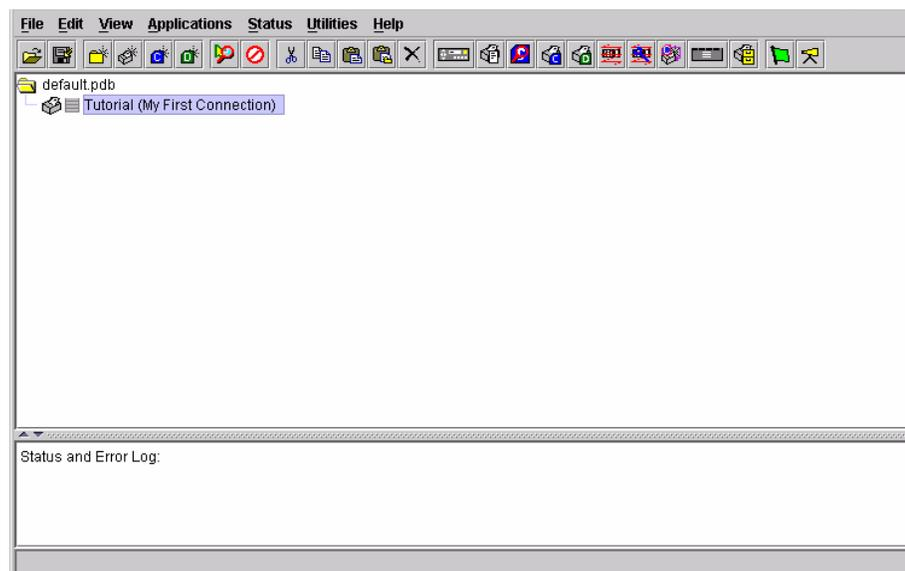

Figure 6. Printer Database Main Window
- a. "Tutorial (My First Connection)" should be highlighted in blue, as shown in Figure 6. If it is not highlighted, click it to select it.